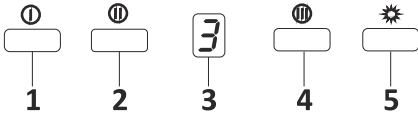

Fig. 14: 3 Spd Dig Button
1. ➔ Press this button to turn on the product. Product will also run on 1st speed level when this button is pressed.Fig. 14
2. ➔ Product will run on 2nd speed level when this button is pressed.Fig. 14
3. ➔ Dig display You can follow which speed the product is currently working on this display.Fig. 14
4. ➔ Product will run on 3rd speed level when this button is pressed.Fig. 14
5. ➔ Press this button to turn on and off the lamp.Fig. 14
6. ➔ Pressing and holding any of the motor operation buttons for more than 2 seconds will initiate a timer function of 15 minutes. A signal will be Displayed once the timer starts and the motor will stop automatically after 15 minutes.Fig. 14